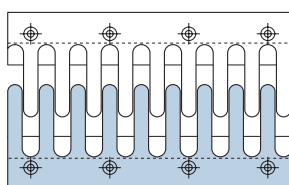

Fig.1
- WP joints are manufactured on request and may be adapted to the directional movement of the main structure, straight (fig.1) or skew (fig.2);